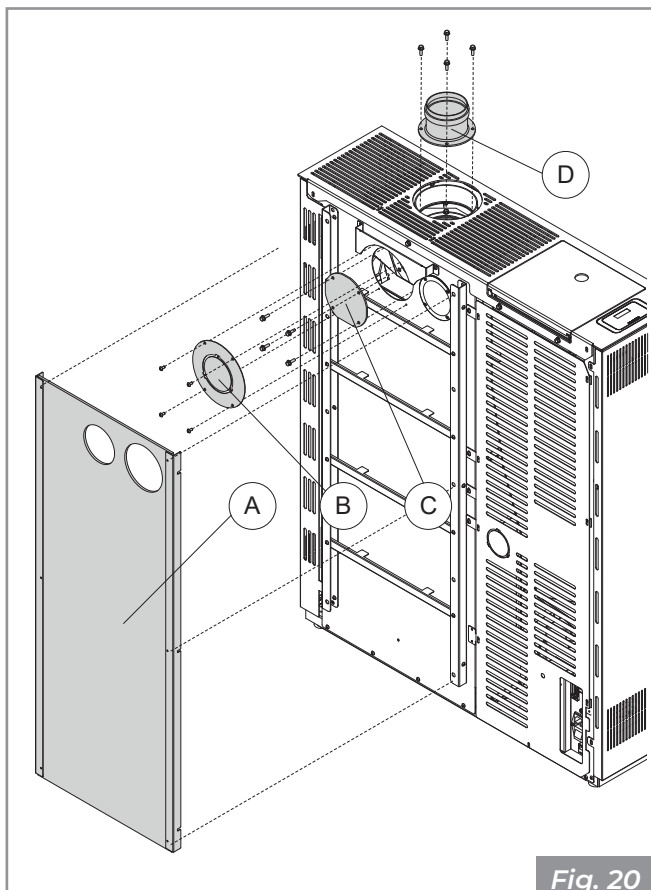
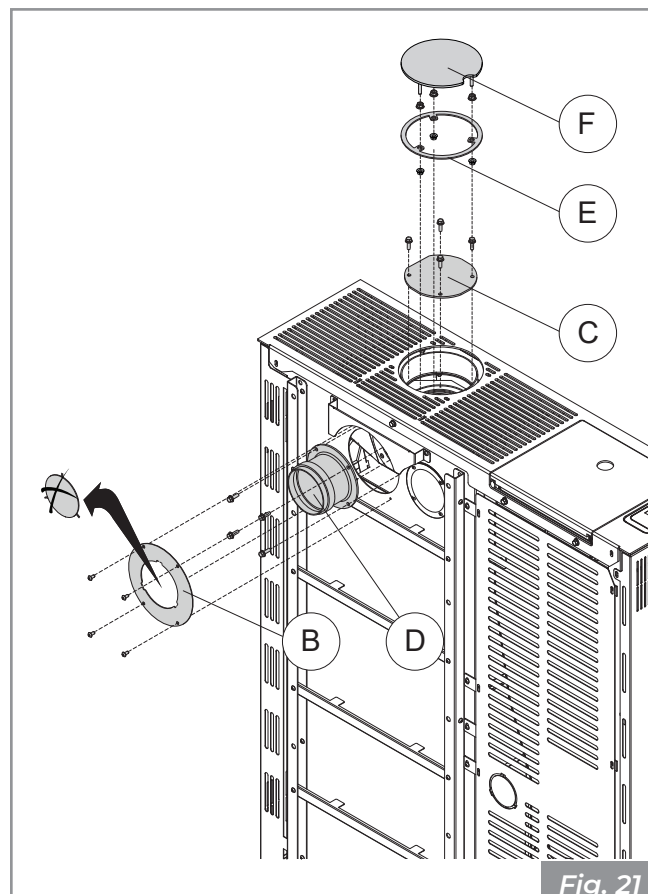

Fig. 20
Fig. 21
The stove is designed to convert the smoke outlet pipe from top to rear (Fig. 20 - Fig. 21).
- Fit the smoke cap (C) on the upper side of the stove in place of the previous position of the upper smoke collar (D).
- Close the upper hole by joining the aesthetic cap (F) to the support ring (E) using the 6 nuts supplied. Align the assembly with the top by adjusting the nuts.
- Fit the upper flue collar (D) on the rear side of the stove in place of the previous position of the flue cap (C).
- Remove the pre-cut from the rear inspection cap (B) and mount the component in its previous seat.
- IT IS possible to connect the flue pipe (G) to the collar (D) (Fig. 21).